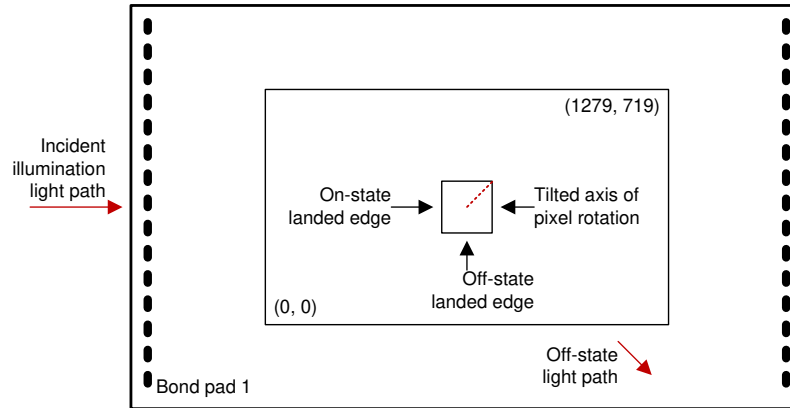

Figure 6-18. Landed Pixel Orientation and Tilt
- (1) Measured relative to the plane formed by the overall micromirror array.
- (2) Additional variation exists between the micromirror array and the package datums.
- (3) Represents the landed tilt angle variation relative to the nominal landed tilt angle.
- (4) Represents the variation that can occur between any two individual micromirrors, located on the same device or located on different devices.
- (5) For some applications, it is critical to account for the micromirror tilt angle variation in the overall system optical design. With some system optical designs, the micromirror tilt angle variation within a device may result in perceivable non-uniformities in the light field reflected from the micromirror array. With some system optical designs, the micromirror tilt angle variation between devices may result in colorimetry variations, system efficiency variations, or system contrast variations.
- (6) When the micromirror array is landed (not parked), the tilt direction of each individual micromirror is dictated by the binary contents of the CMOS memory cell associated with each individual micromirror. A binary value of 1 results in a micromirror landing in the ON state direction. A binary value of 0 results in a micromirror landing in the OFF state direction. See Figure 6-18.
- (7) Micromirror tilt direction is measured as in a typical polar coordinate system: Measuring counter-clockwise from a 0° reference which is aligned with the +X Cartesian axis.
- (8) The time required for a micromirror to nominally transition from one landed state to the opposite landed state.
- (9) The minimum time between successive transitions of a micromirror.
- (10) Conditions of Acceptance: All DMD image quality returns will be evaluated using the following projected image test conditions: